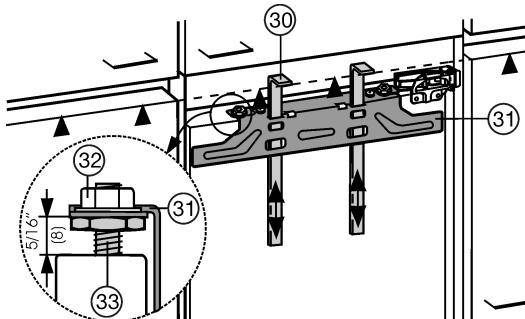

Fig. 21
The fitting aids Fig. 21 (30) are required for both doors. You must therefore fit the unit doors one after the other.
► Raise the fitting aids Fig. 21 (30) to the unit door height. Bottom stop edge ▲ of fitting aid = top edge of unit door to be fitted.